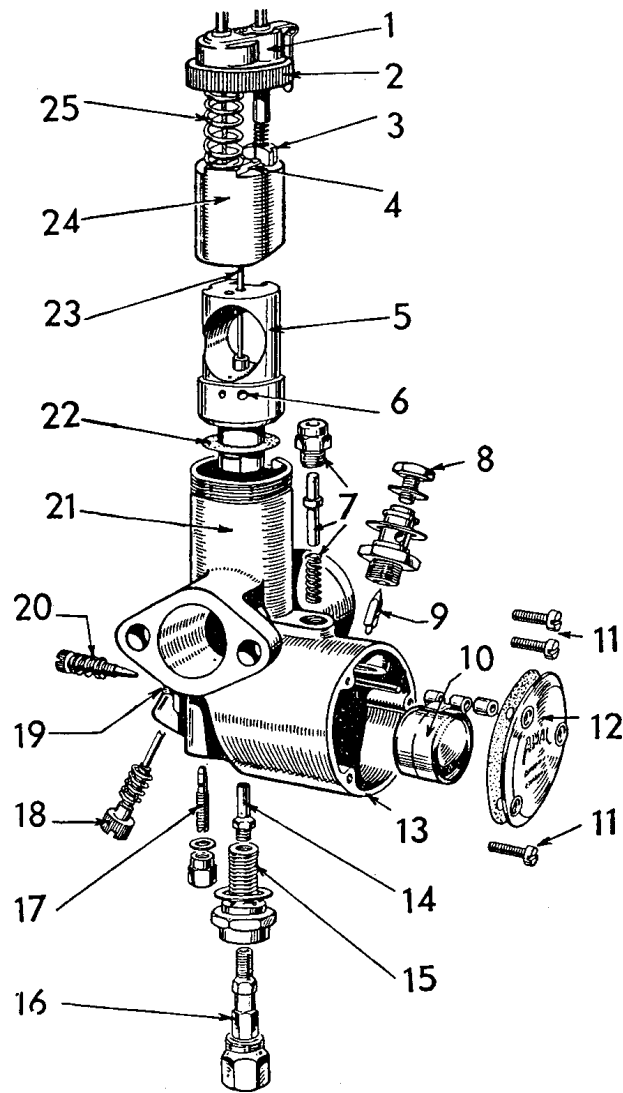

FIG. 10. AMAL "MONOBLOC" CARBURETTOR (1955 ONWARDS)
Fig. 10 shows all the essential parts of the instrument. The float chamber (1 3) and needle (9) maintain a constant level of petrol in the needle jet (1 4) and the pilot jet (1 7). The selection by the makers of the appropriate jet sizes and main-bore choke ensures a proper atomizing and proportioning of the petrol and air sucked into the engine.
KEY TO FIG. 10
With the "Monobloc" carburettor (see Fig. 10) to remove the pilot jet (17), remove the pilot jet cover-nut and then unscrew the jet itself which should be thoroughly cleaned in petrol and then blown through. See that the air passage (6) to the pilot jet, and also the pilot outlet, are quite clear.
Dismantling "Monobloc" Carburettor. Close both petrol taps and disconnect the twin petrol pipes by undoing the banjo bolt (8) over the float chamber (see Fig. 10). Referring to Fig. 10, unscrew the mixingchamber knurled cap-ring (2) on top of the carburettor and remove the two nuts securing the carburettor flange to the face of the inlet port. Then remove the body of the carburettor (21), complete with the integral float chamber (13). While removing the carburettor, pull the air valve (3) and the throttle valve (24) from the mixing chamber and tie them up temporarily out of the way. As mentioned in the instructions for the standard type carburettor, it is rarely necessary to disconnect the slides from the cables. Check that the flange washer is sound.
Further dismantling is straightforward. Referring to Fig. 10, to remove the jet needle (23), withdraw the jet-needle clip (4) on top of the throttle valve, and remove the needle. To obtain access to the float (10), remove the three screws (11) securing the float-chamber cover (12). Lift out the hinged float (10) and withdraw the moulded-nylon needle (9). Lay both aside for cleaning. The float-chamber vent, by the way, is embodied in the tickler assembly (7), and the top-feed union houses a filter element of fine gauze which is rapidly accessible for cleaning.
Assembling "Monobloc" Carburettor. Do this in the reverse order of dismantling. Referring to Fig. 10, screw home the pilot jet (17) and the pilot jet cover-nut, not omitting to replace its washer. Push or tap home the jet block (5) and fibre seal (22) through the large end of the mixing chamber (21). Check that the fibre-seal fitted to the stub of the jet block is in good condition. Then fit the jet-block locating-screw (19). Screw the main-jet holder (15) into the jet block, after checking that the washer for the holder is sound. Next screw the main jet (16) into the jet holder.